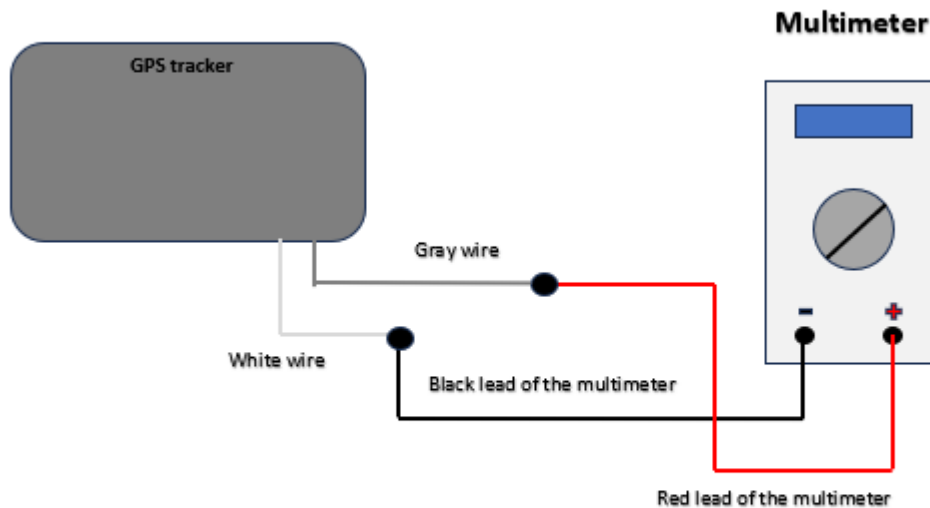

Fig. 9 Connection Diagram
2. Assemble the connection circuit according to "Fig. 9 Connection Diagram."